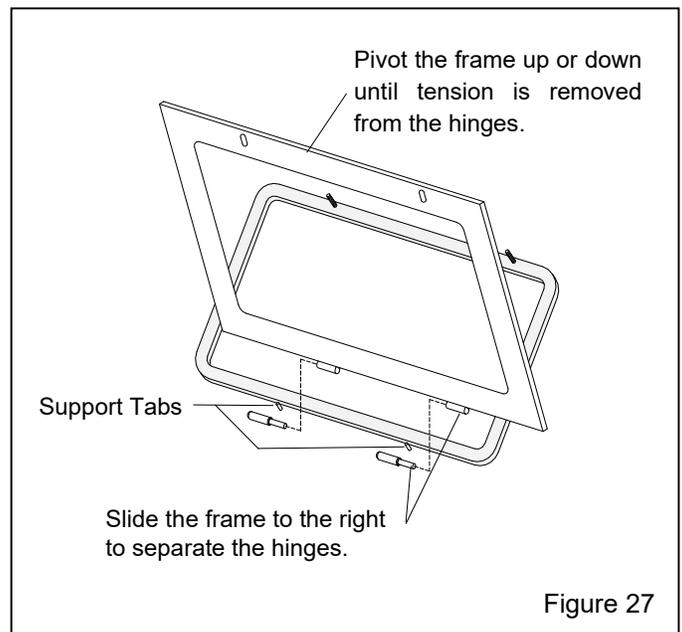

Figure 27
7.6 Window-Frame Removal – Figure 27
7.6.4 To remove, slide the frame to the right. The hinges separate, as shown in Figure 27.